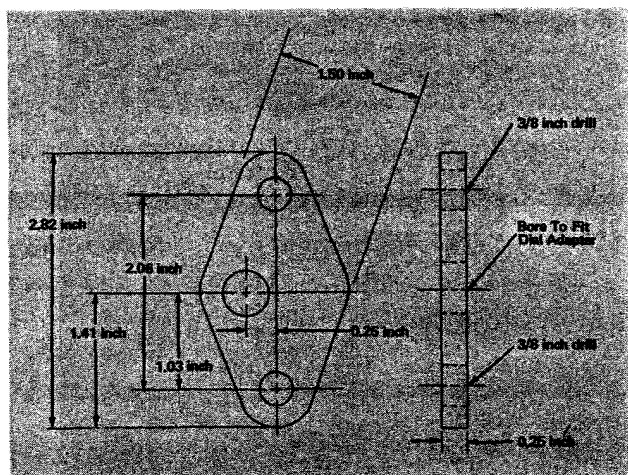
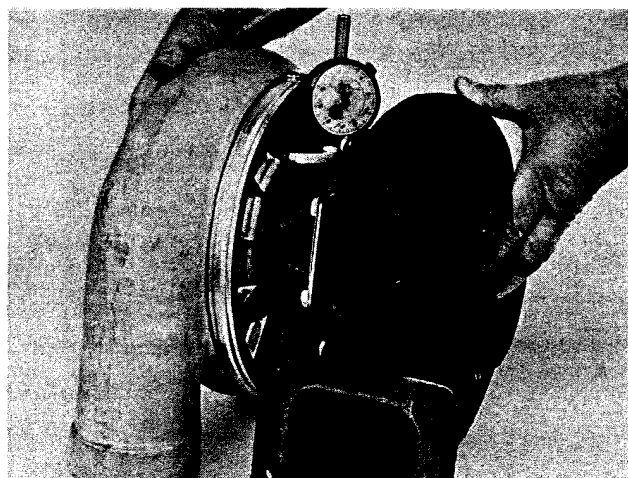

Fig. 2-54, (TA-45). Dial indicator adaptor for T-18A turbocharger
Fig. 2-55, (TA-46). Checking bearing radial clearance of T-18A
1. Fasten a dial indicator (plunger type with one inch travel) using a mounting plate and two inch indicator extension rod to the turbocharger oil drain mounting pad (Fig. 2-55). The mounting plate and indicator can be secured with the bolts which were removed to gain access to the oil drain hole. Fig. 2-54 gives the dimensions for fabricating the mounting plate to properly align indicator.